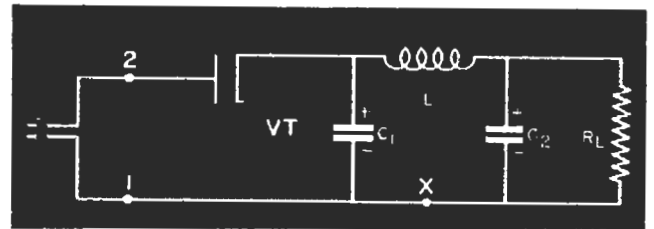

FIG 1. This universal power supply uses no power transformer.
A simple universal power supply is shown in Fig. 1. As you see, no power transformer is used—the power line connects directly to the circuit. The half-wave rectifier tube *VT* is followed by a standard condenser input filter which connects to the load.
► As in the standard power supply, the choke coil in Fig. 1 can be placed at point X (between the negative leads of the filter condensers), and the voltage drop across it can then be used to furnish bias voltages.
ply, in order for the speaker to operate. If the coil has a low resistance (500 ohms or less), we can use it in place of the filter choke in Fig. 1 and thus make the coil do double duty.
**Regulation.** The filter systems of Figs. 1, 2, 3 and 4 are condenser-input filters. As you know, their regulation